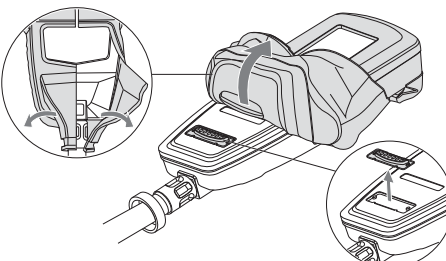

Fig. 49 Removing the rubber cover
2. Fold back the rubber cover (Fig. 49).